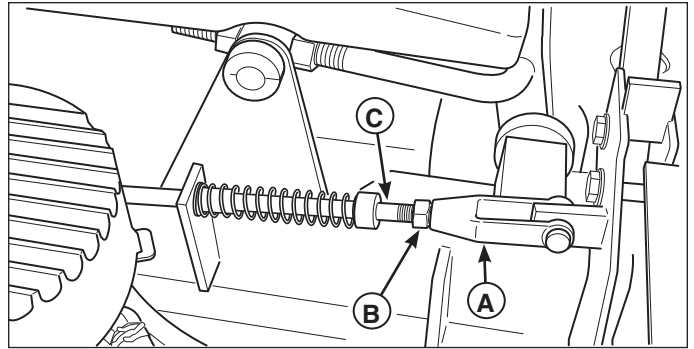

Figure 36. Neutral Spring Return Adjustment
3. Move the ground speed control levers out towards the neutral position. If the levers do not align with the notches in the neutral lock plate, it is necessary to adjust the neutral return rod (C, Figure 36).